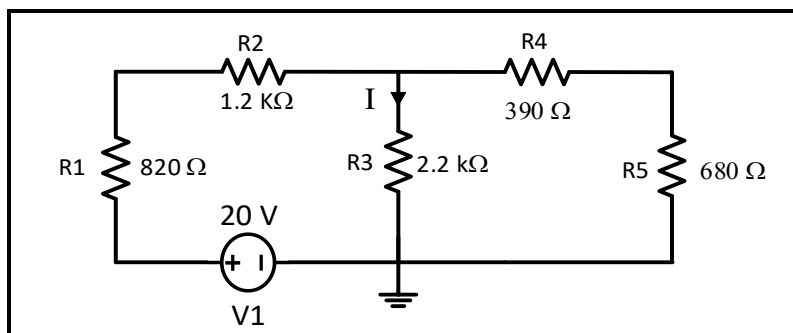

Figure 4.3
3. Connect the circuit of Figure 4.3.